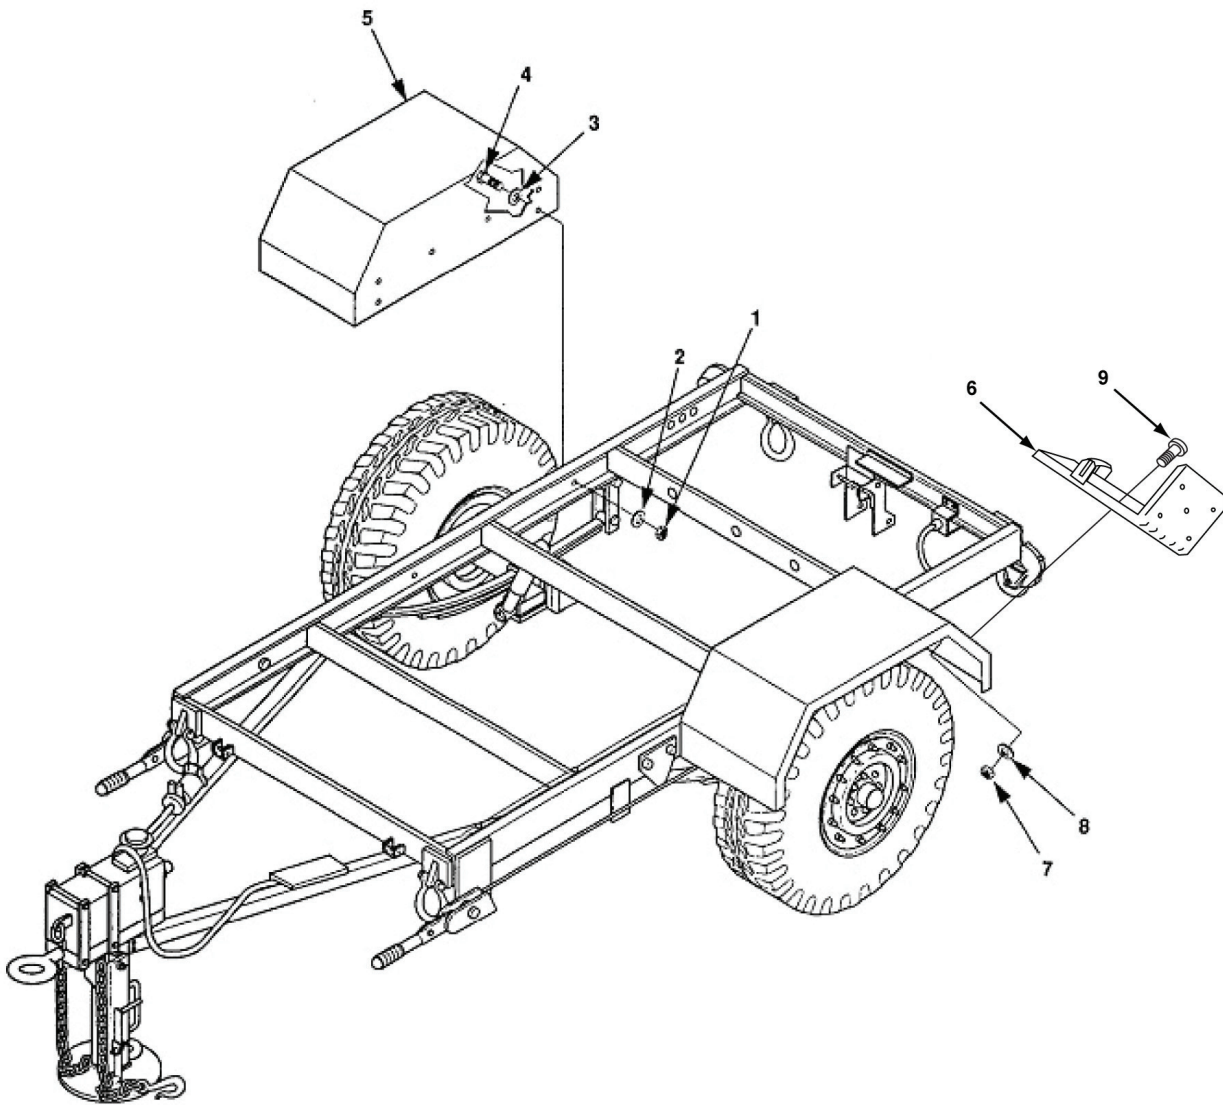

Figure 4-21. Fender Replacement, 1 Ton Trailer.
1. Remove four self-locking nuts (7, figure 4-21), flat washers (8), cap screws (9) and remove bracket (6). Discard self-locking nuts (7).
2. Remove six self-locking nuts (1), flat washers (2 and 3), cap screws (4) and remove fender (5). Discard self-locking nuts (1).
3. Remove deck covering by peeling from fender (5).